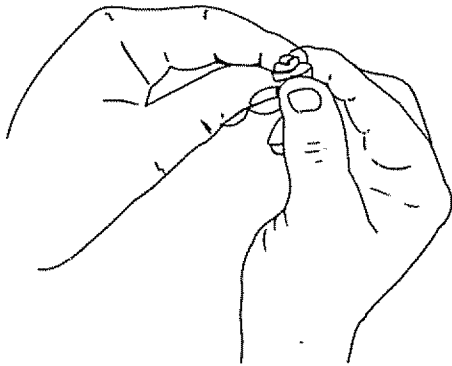

Fig. 20
6. Squeeze the filter to spread the oil (Fig. 20).